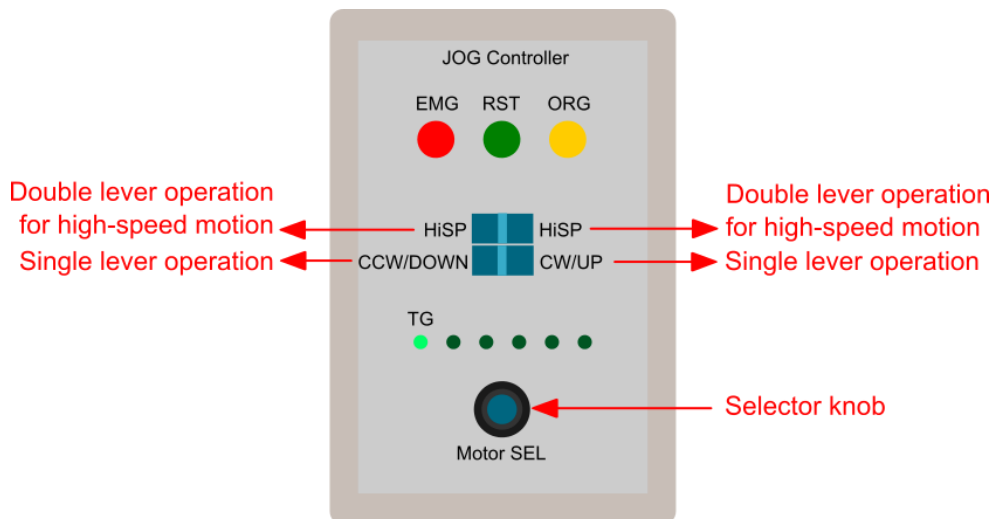

Figure 5: Substrate stage/target stage manipulation in main chamber by handy console.
- (2) Move the substrate stage/the target stage by handy console in the main chamber (see Figure 5) It is effective and easy way to use handy console for appropriate angle rotation in the substrate stage or the target stage when substrate holder/target holder transfer. The handy console operation is shown as follows.